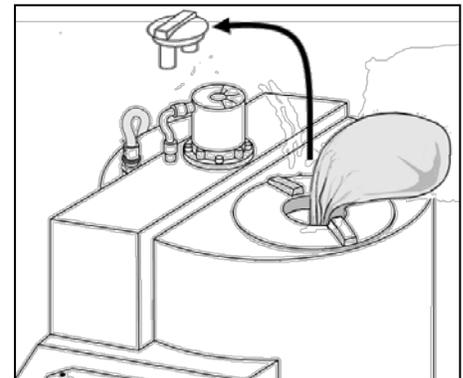

Figure 7
9. Remove the GranuFlo I Dissolution Unit Small Access Lid, and slowly add granules as shown in Figure 7. This minimizes the amount of particulates discharged into the air while adding granules to the tank. If there is clumping present in the dry acid, then the larger Access Lid can be used to load the Tank; but ensure that the bags are poured slowly into the large access port to avoid splashing water onto the outside of the GranuFlo I Dissolution Unit (See Appendix A for further complete dry acid mixing information, page 43).